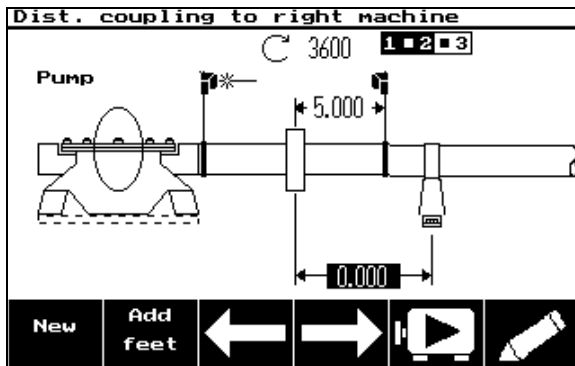

Figure 2
Remember, the middle machine does not really exist but will represent your spacer shaft. See Figures 2 and 3, which show the middle machine configured as type "Shaft".
- Note that the icon  appears at the top of the Dimensions screen (see Figure 2), indicating that you are in the Dimensions screen for Machines 1 and 2. Key in the distance from the single-plane coupling (the left coupling on your spacer shaft) to the receiver, and press .
- Enter the distance from the coupling to the foot of machine 2 as **zero**. See Figure 2. Remember, this foot doesn't really exist, so entering a distance of zero will position it at the same location as the left coupling. This makes entering the actual spacer length easier later in step 12.